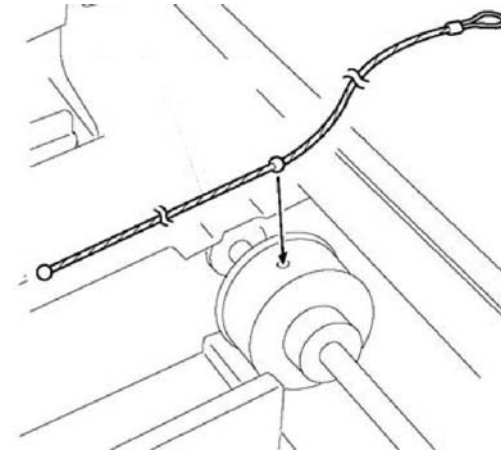

Figure 6 Anchor ball
1. Insert the anchor ball of the carriage cable into the groove in the capstan, Figure 6.